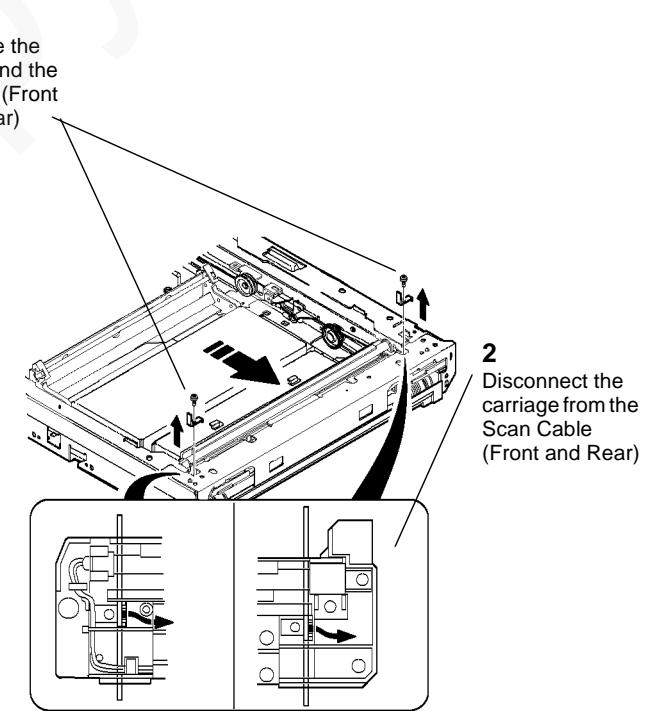

Figure 1 Preparing to Remove the Exposure Lamp Carriage
2. (Figure 1): Prepare to remove the Exposure Lamp Carriage.